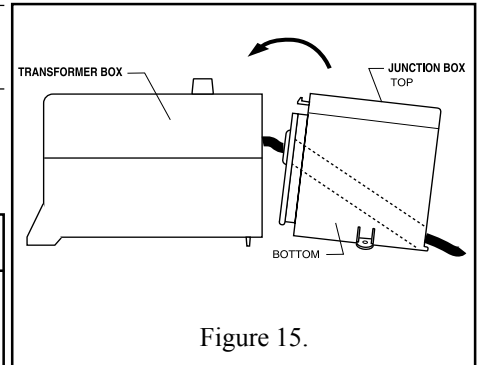

Figure 15.
11. Place the junction box cover on the junction box bottom so that the junction box can more easily snap into the transformer box; see Figure 15. Snap the pieces together, then remove junction box cover.